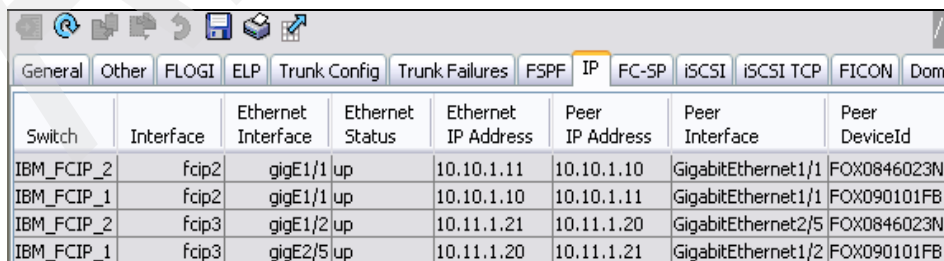

Figure 12-36 FM IP panel for FC Logical interfaces
- Select the **IP** tab (Figure 12-36). We see both of our FCIP links and verify that they are using the GigE interfaces that we configured. For each link on both switches, we see a Neighbor Device indicating that the links are up.